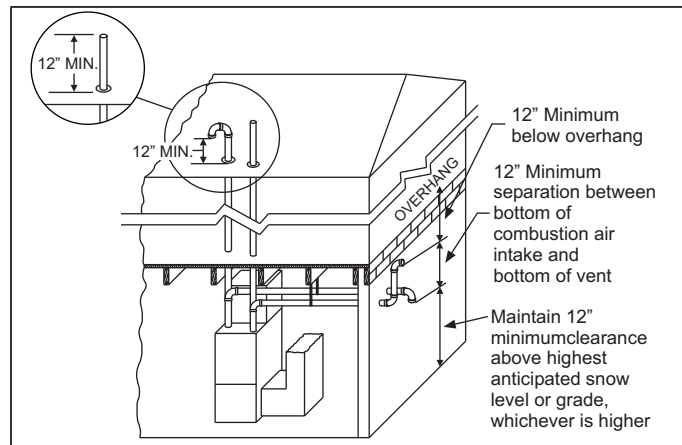
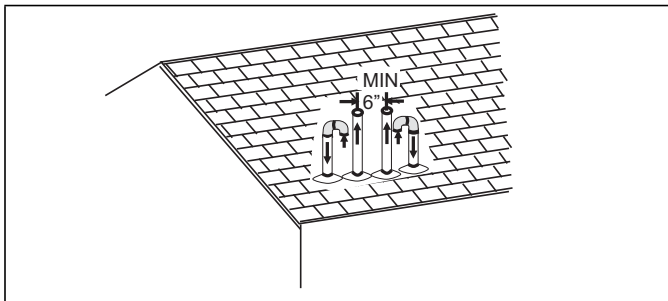

FIGURE 37: Termination Configuration - 2 Pipe Basement
FIGURE 39: Double Vertical Combustion Air Intake and Vent Termination
7. Direct vent systems must be installed so the vent and the combustion air pipes terminate in the same atmospheric zone. Refer to Figures 37 or 38.
The combustion air side of the two-pipe configuration shown in Figures 37 and 38 can be installed so the combustion air pipe terminates as described in outdoor combustion air or ventilated combustion air sections in these instructions. Follow the instructions for outdoor combustion air or ventilated combustion air and the instructions for installing the vent system with the vent terminating as shown in Figure 39 or 40. The two-pipe system must have a separate combustion air pipe and a separate vent pipe for each furnace. Under NO circumstances can the two combustion air or vent pipes be tied together. The combustion air and vent pipes must terminate in the same atmospheric zone.